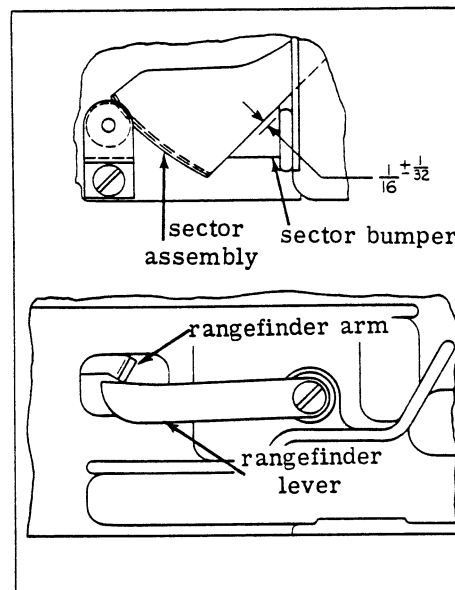

Figure 10A. Lever & Sector Assembly
- g. If sector bumper (9) has been removed, apply 3M EC-880 adhesive and assemble bumper as illustrated in figure 10A.
- h. Assemble rangefinder arm shield (7) and machine screw (8).
- i. If two battery contact plate insulators (6) have been removed, apply 3M EC-880 adhesive to insulators and assemble in place.
- j. Assemble insulator (5) and circuit plate complete (3), using two thread cutting screws (4). Apply 3M EC-880 adhesive to the two housing bosses and assemble battery contact plate assembly in place.
- k. Apply 3M EC-880 adhesive to housing and assemble guard (2).